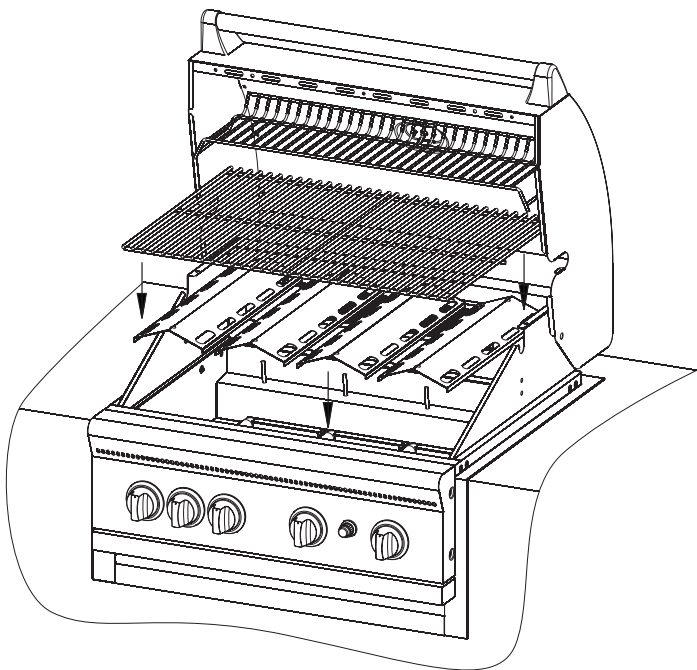

Figure 6
5. Place flame tamers over burners. Pins on burner box fit through holes on flame tamer. See Figure 6.
6. Place cooking grids into grill. See Figure 6.
7. Place warming rack on top of grill body side walls. See Figure 6.